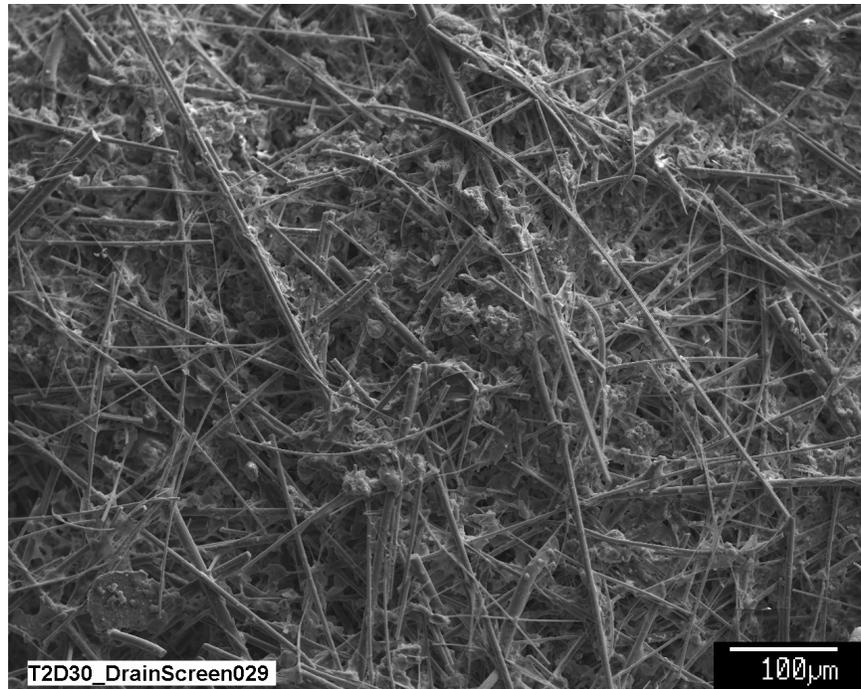

Figure D3-1. SEM image for a Test-2 Day-30 fiberglass sample on the drain collar next to the drain screen (T2D30_DrainScreen029).
- Figure D3-1. SEM image for a Test-2 Day-30 fiberglass sample on the drain collar next to the drain screen (T2D30_DrainScreen029). D3-5